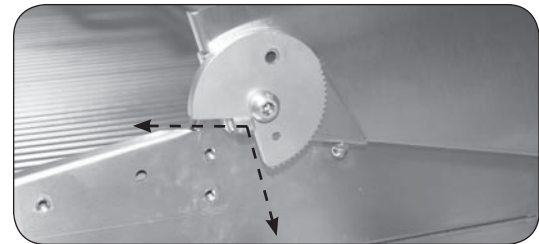

Fig. 4-3 Position lid gear
2. With the oven lid fully opened, ensure the lid gear is positioned as shown in Fig. 4-3.